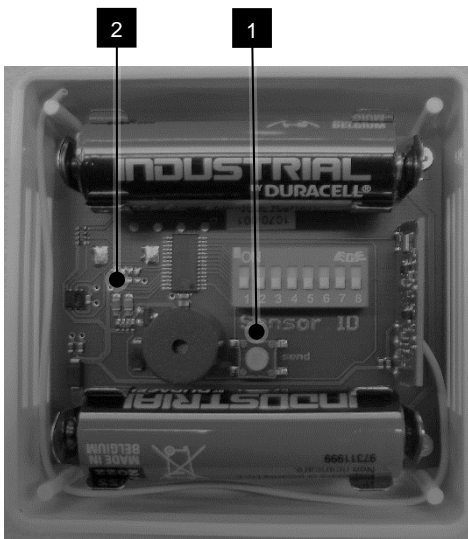

Fig. 9: Check functionality
**3.** → Check the wireless sensor system for functionality. To do this, press the button (Fig. 9/1).
- ⇒ If the LED (Fig. 9/2) lights up briefly, the wireless sensor system is ready for operation. If the wireless sensor system emits a short signal tone at regular intervals during operation, replace the batteries.